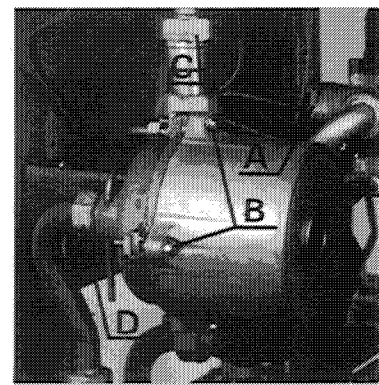

Fig. 24
- Release thermocouple from thermoelectric valve (A fig. 24).
- Unscrew valve (A fig. 24) from rear of gas section using a 35 mm or adjustable spanner.
8.4 To replace pump (fig. 24)
8.5 To remove pump and volute (fig. 24)